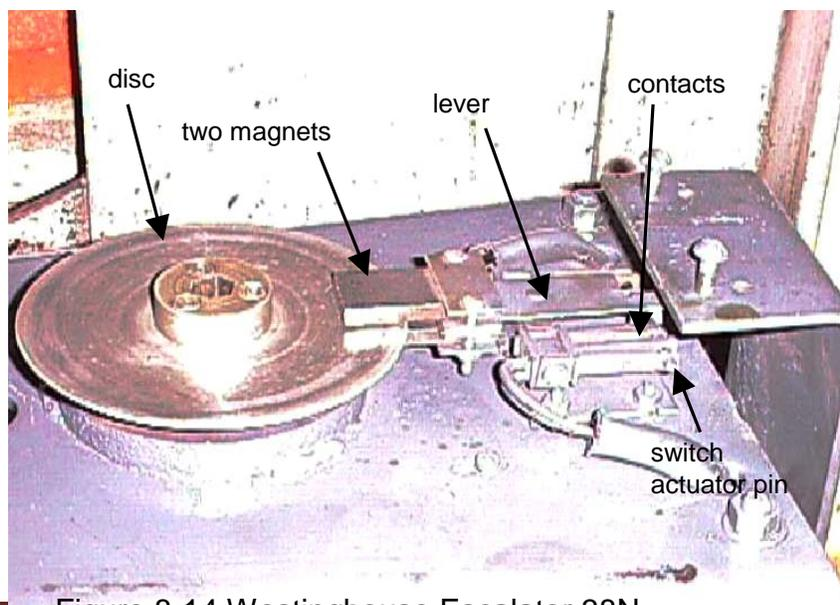

Figure 8-14 Westinghouse Escalator 38N Reversal Stop Device (cover removed)
Westinghouse escalator figure 8-14 below);
3. Refer to figure 8-14, Westinghouse escalator. What is the status of the reversal stop switch contacts if the unit is non-operational?